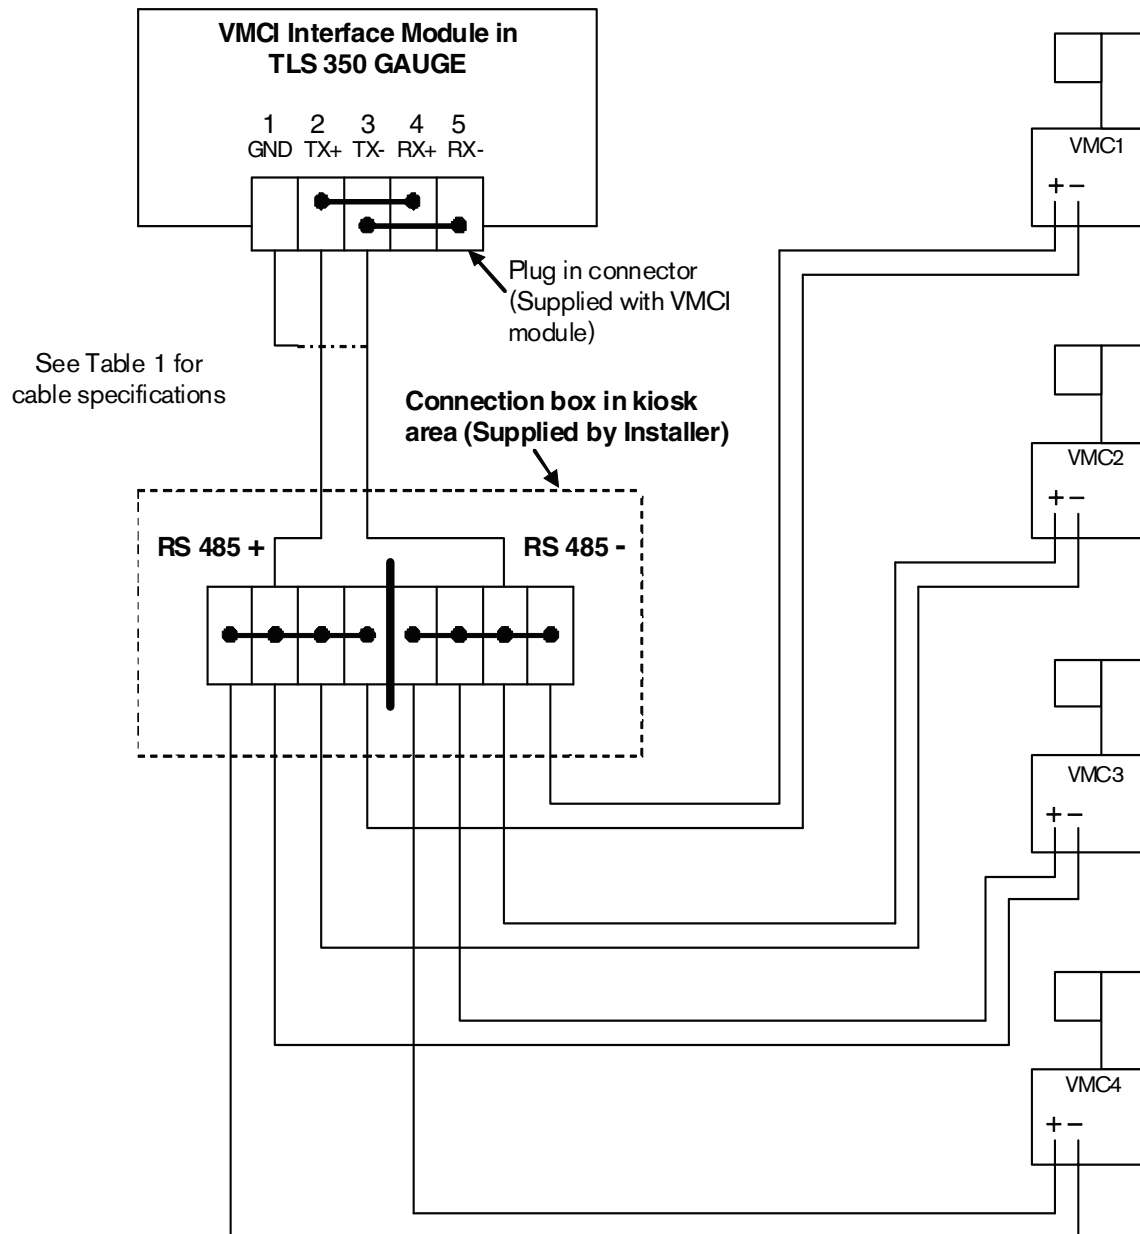

Figure 4. Example VMCI module network wiring diagram
1. Refer to Figure 4 and locate the appropriate terminal block inside the junction box.
2. Connect the data cable leads to the terminal block as shown in Figure 4 (refer to Table 1 for the required data cable specifications). The junction box's screw terminal positions could vary, so refer to manufacturer's installation manual. When wiring to the junction box, keep wires physically separated by spacing them away from any other wiring or conduits.